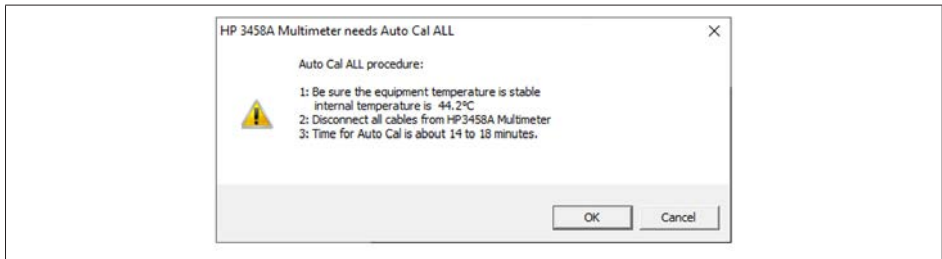

Fig. 4.16 HP 3458A Multimeter Auto Cal window
*When HP 3458A is part of the CalStack a new window can pop up (see Fig. 4.16).*